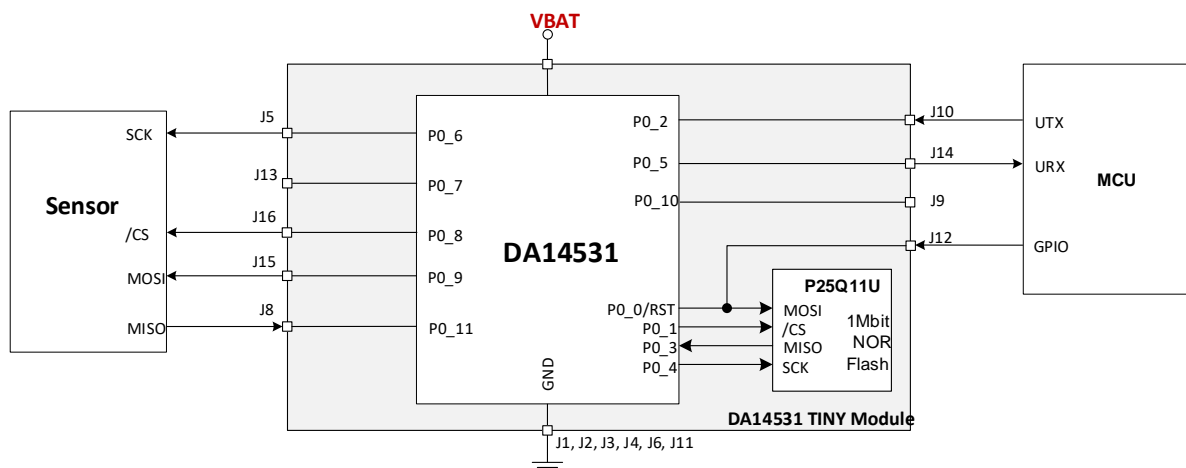

Figure 11: Example of Connecting a Sensor to the SPI Bus and an MCU to RST and UART
- The SPI Bus of DA14531 is used for the communication of the SoC with the NOR Flash at boot time. Three of the four signals are not driven to external module pins. For this reason, a sensor that utilizes the SPI bus must be assigned (by software) to the module pins to communicate with after the boot is completed and when NOR Flash is no longer in use. An example is given in Figure 11